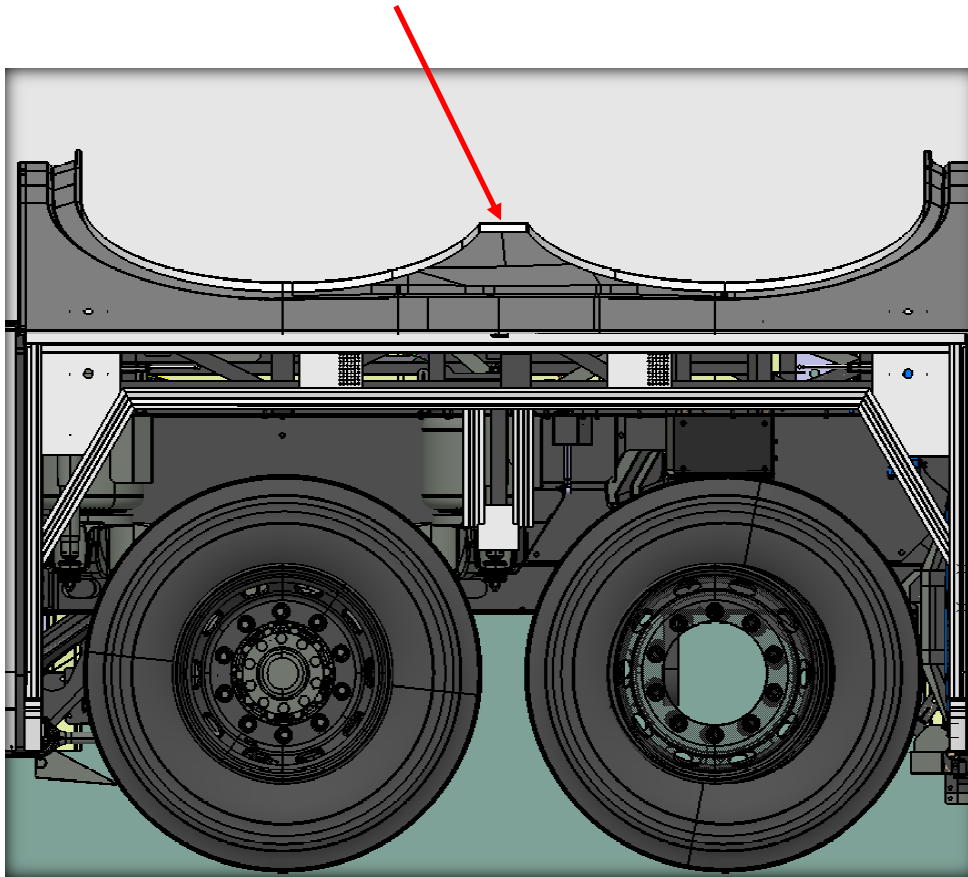

Figure-1
Step 1: Remove the fender shown in Figure-1